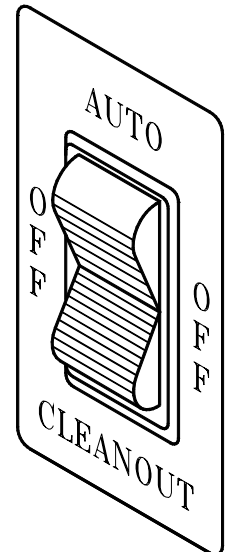

Fig. 26
5. Set each control switch (Fig. 26) to the bottom "CLEANOUT" position and let the unit agitate for approximately three to five minutes.
6. Set each control switch (Fig. 26) to the center "OFF" position and drain the solution from the machine. Proceed directly to the "Operation" section of this manual.